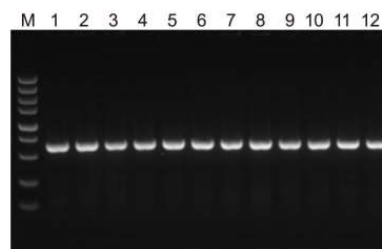

Fig 2. Agarose Gel Electrophoresis of Colony PCR
6.2 Pick several mono-colonies from the plate of recombination reaction for colony PCR with at least one common sequencing primer of the vector. If the colony is positive, there should be a band which length is slightly bigger than that of insert (Fig 2).